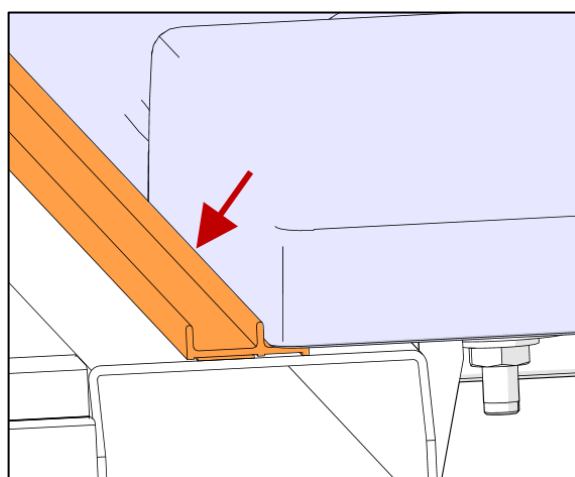

FIGURE 50
79. For the longitudinal position, mate the middle lip of the strip with the side face of the fender (see Figure 50 that shows the bottom view).